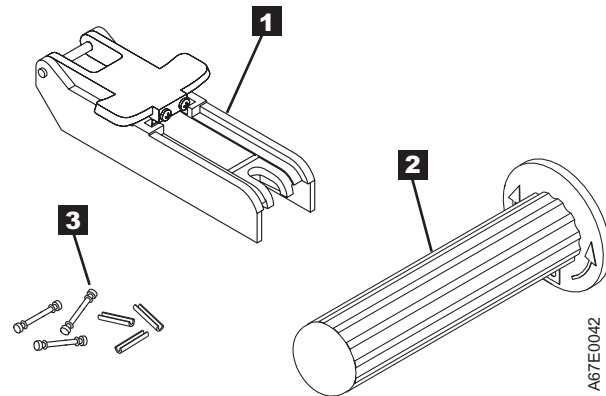

Figure 146. Leader Pin Reattachment Kit
- **Leader pin attach tool** (see **1** in Figure 146 on page 177). A plastic brace that holds the cartridge door open.
- **Cartridge manual rewind tool** (see **2** in Figure 146 on page 177). A device that fits into the cartridge's hub and lets you wind the tape into and out of the cartridge.
- **Pin supplies** (see **3** in Figure 146 on page 177). Leader pins and C-clips.